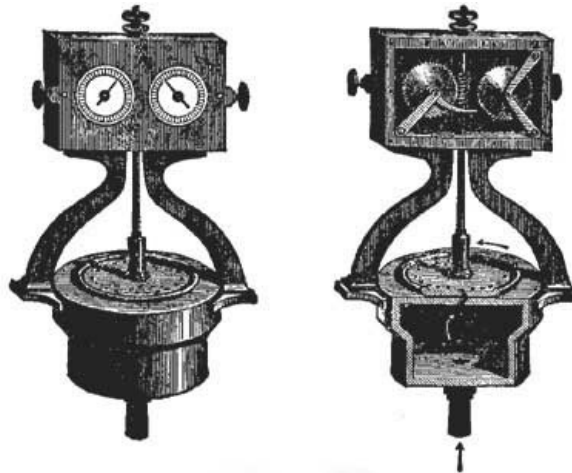

FIG. 177.—A siren.
**263. The Pitch of a Note.** By means of an apparatus called the siren, it is possible to calculate the number of vibrations producing any given musical note, such, for example, as middle C on the piano. If air is forced continuously against the disk as it rotates, a series of puffs will be heard (Fig. 177).